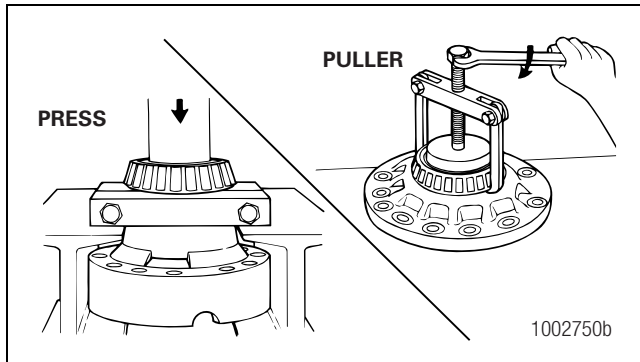

Figure 3.20
8. If the differential bearings need to be replaced, use a bearing puller or press to remove the bearing cones from the case halves. Figure 3.20.